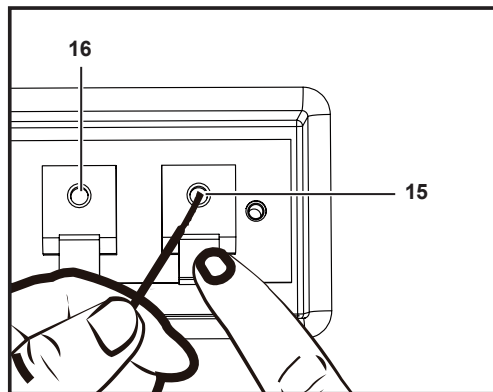

Fig. 22
- To connect the boundary wire (19) to the boundary wire terminals (15/16), push down the red and black levers to expose the terminals and insert the twisted wire ends into them (Fig. 22). Release the levers to clamp the wires securely in place.